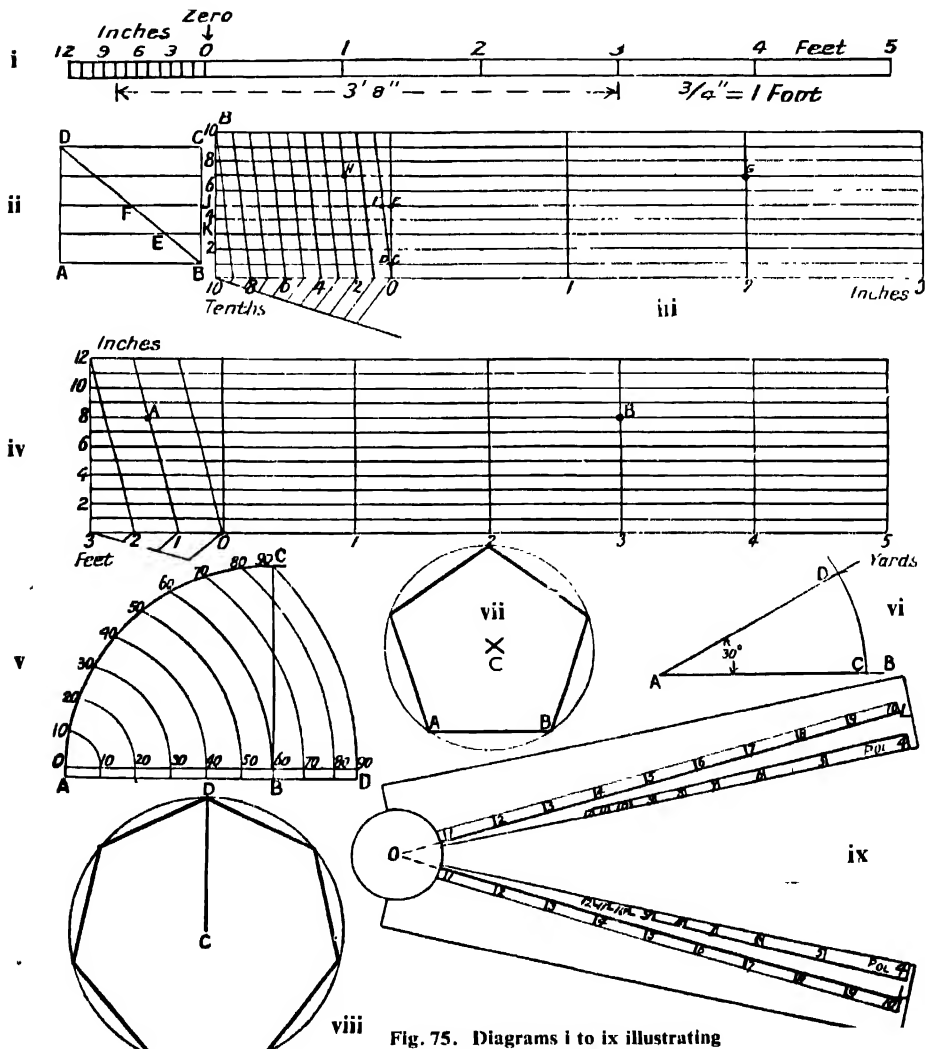

Fig. 75. Diagrams i to ix illustrating the use of scales.
To draw a scale of $\frac{3}{4}$ in. to 1 ft. to measure 6 ft. and show feet and inches, draw two parallel lines about $\frac{1}{16}$ in. apart. Set off $\frac{3}{4}$ in. six times, then each of these parts represents 1 ft. Divide the first part into 12 equal divisions, each of which will represent 1 in. When figuring and naming the parts, the zero should be placed as shown in Fig. 75, i, so that
Diagonal scales are used when the divisions become very minute. The construction is based upon the principle of similar triangles. Let the rectangle $ABCD$ (Fig. 75, ii) be divided into four equal parts by parallels to AB , and the diagonal BD be drawn, then a number of similar triangles will be formed. Thus the triangles $C'BD$ and $JB'F$ are similar ; therefore if B is half of BC then JB' is half of $C'D$. In the
To draw a diagonal scale showing inches, tenths, and hundredths of an inch, and to measure 4 in. Draw a line (Fig. 75, iii) and mark off on it four separate inches. Divide the first inch into 10 equal parts for tenths of an inch, then on a perpendicular erected at 10 set off 10 equal parts to any convenient unit, and through each draw parallels to the first line. Erect perpendiculars at 0, 1, 2, and 3 inches; join 9 and B ; and through each division for tenths of an inch, draw the other diagonal lines parallel to $9B$ as shown. The distance CD is $\frac{1}{10}$ in., EF is $\frac{1}{100}$ of an inch, and GH is $2\frac{1}{100}$ in. or $2\cdot27$ in.
Draw a line (Fig. 75, iv) and mark on it $\frac{3}{4}$ in. six times, to represent yards. Divide the first division into three equal parts for feet. On a perpendicular erected at 3 feet, set off 12 equal parts of any convenient unit, and through each part draw parallels as before. Erect perpendiculars at 0, 1, 2, 3, 4, and 5 yards. Join 2 ft. and 12 in., and draw other diagonals parallel to it. Figure and name divisions on scale as shown. AB represents 3 yd. 1 ft. 8 in.
Make a quadrant ABC (Fig. 75, v). Divide the arc AC into nine equal parts of 10° each.
The divisions 10, 20, 30, etc., on AD are found by taking A as centre with radius $A10$, $A20$, $A30$, etc., on arc AC , and marking them from A along AD as shown by concentric arcs. The distance from A to each division on AD is the chord of the angle containing that number of degrees. The divisions become smaller as they approach 90° . The distance 0 to 60 is *always* the radius of the arc to be used in making any angle. Thus, to make an angle of 30° , draw any straight line AB as in Fig. 75, vi. With either end, as A , as centre, and radius $A60$ in Fig. 75, vi, describe an arc CD . With C as centre and $A30$ as radius cut CD in D . Join AD , then DAC is an angle of 30° .
The sector is an instrument (Fig. 75, ix) formed of two flat legs hinged at O . Lines OL are drawn radiating from O , one on each leg, and are called *the line of lines*, by the use of which problems in proportion can be readily solved. There is also *the line of polygons*, marked POL . Care must be taken to measure always from points on the lines (thick in illustration) drawn from the centre O .
4. To inscribe a regular heptagon in a circle. Open the sector until the distance from 6 to 6 on POL equals the radius CD of the circle (Fig. 75, vii). Then the transverse distance from 7 to 7 on POL is the side of the heptagon.
5. To construct a regular pentagon on a given line AB . Open the sector until the transverse distance from 5 to 5 on POL equals AB (Fig. 75, vii). With A and B as centres, and the transverse distance from 6 to 6 as radius, make arcs intersecting at C . With centre C and same radius describe a circle. Set off AB round it.